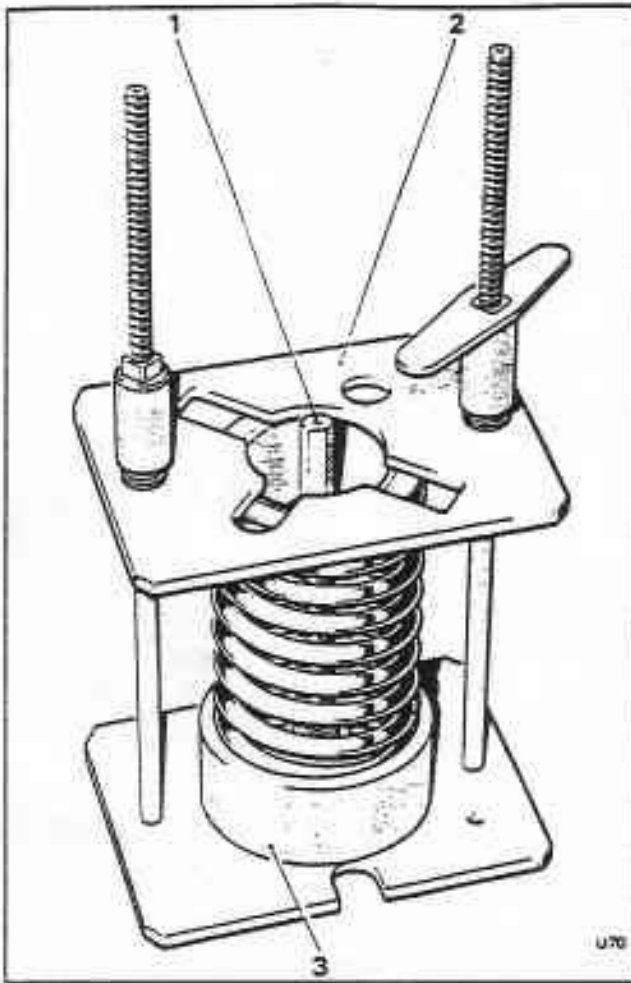

Fig. H12m Spring compressing tools in position
9. Position the compressed spring into the compression tool with the upper spring support in the adapter block (see Fig. H12m).